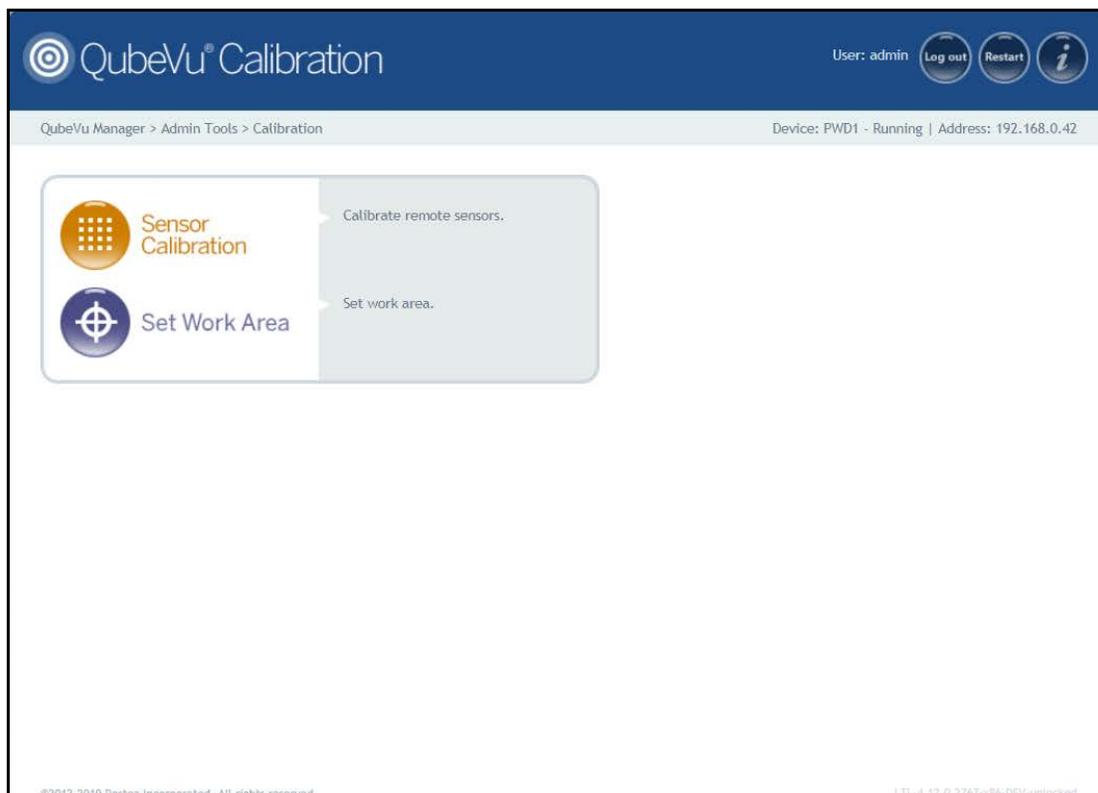

Figure 5-1. Calibration Menu
1. Press  from the **Calibration** menu (Figure 5-1 on page 20) to enter the **Remote Sensors Calibration** menu.
- Press  **Set Work Area** from the **Calibration** menu (Figure 5-1 on page 20) to enter the **Set Work Area** menu.